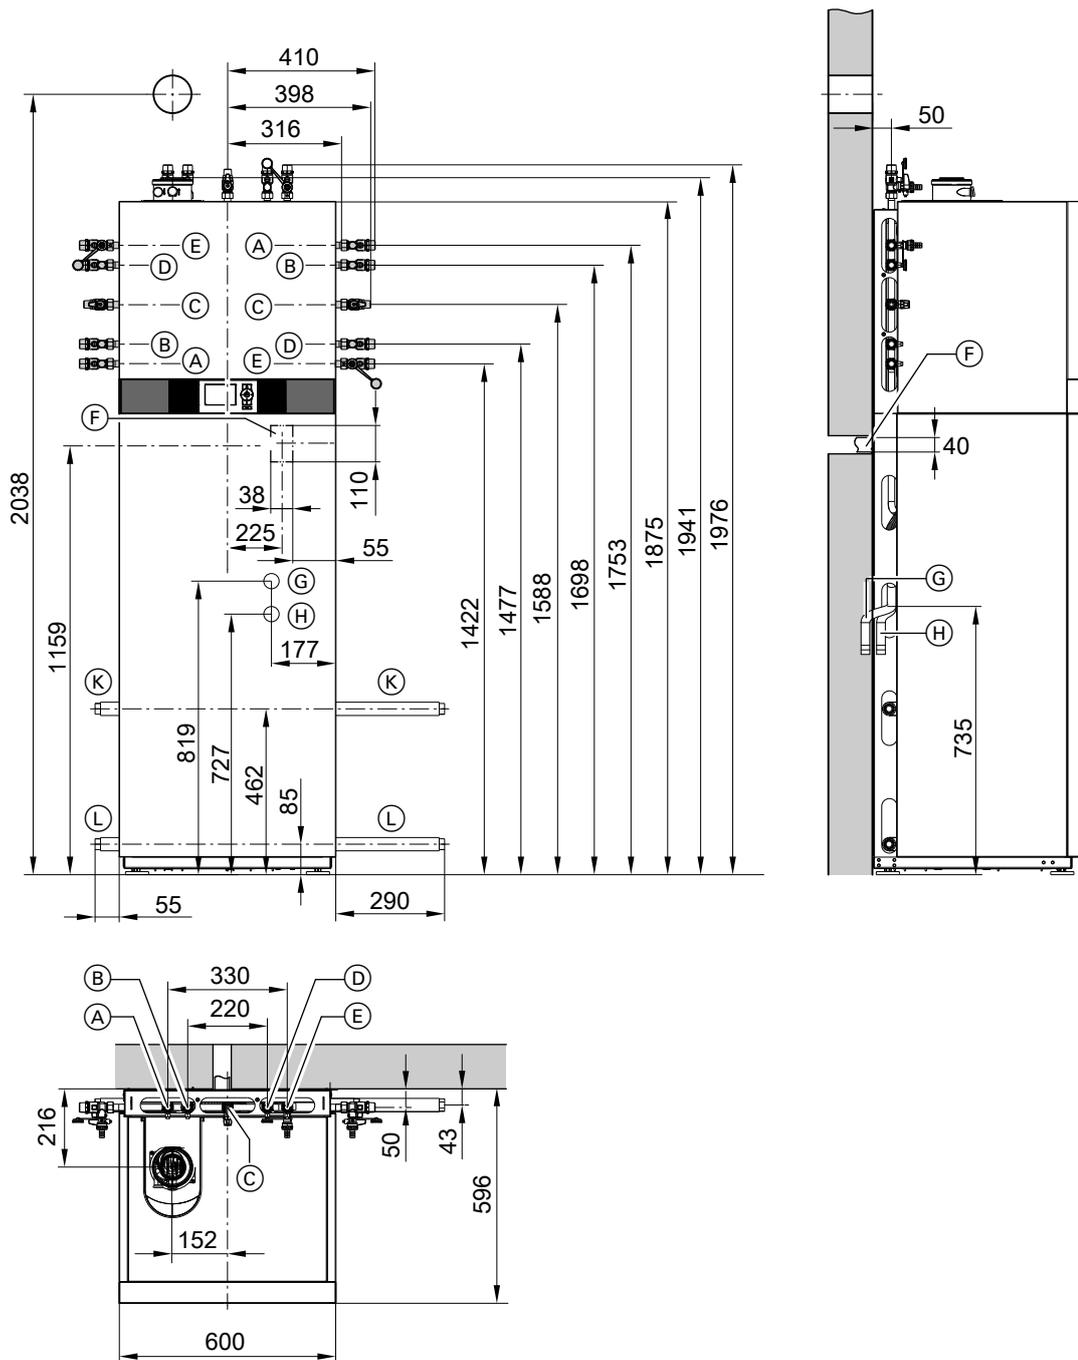

Fig. 2
Prepare the condensate hose and safety valve discharge pipe for the on-site drain line or siphon: See positions ⑥ and ⑦ in Fig. 2, page 12. The connection can be made to the rear into the wall, to the left or to the right.
- All cables in area ⑧ should protrude 1400 mm from the wall (see Fig. 2, page 12)